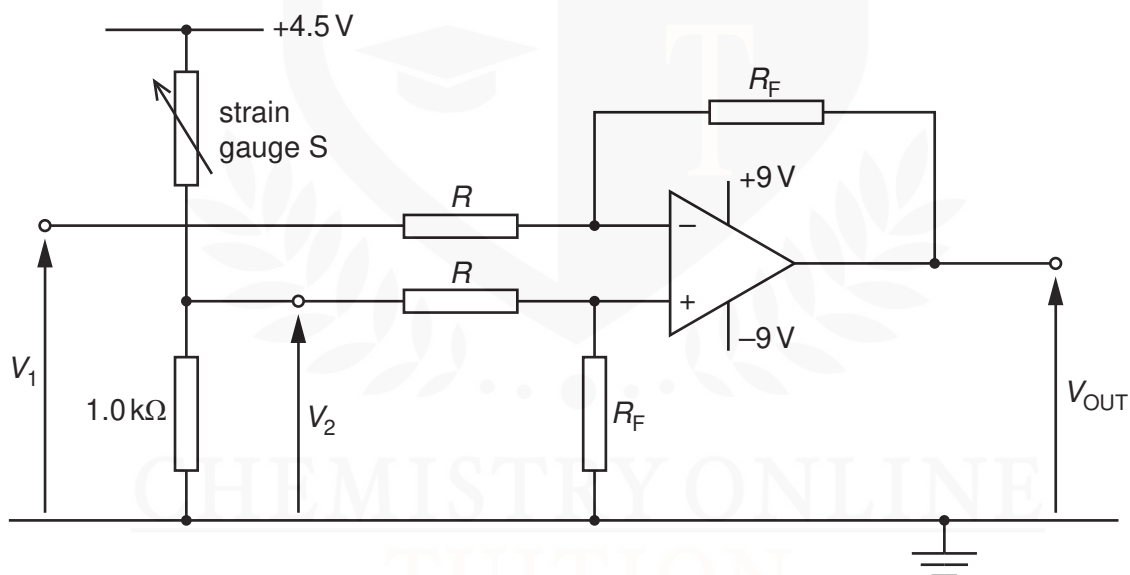

Fig. 9.1
- (b) A strain gauge S is connected into the circuit of Fig. 9.1.